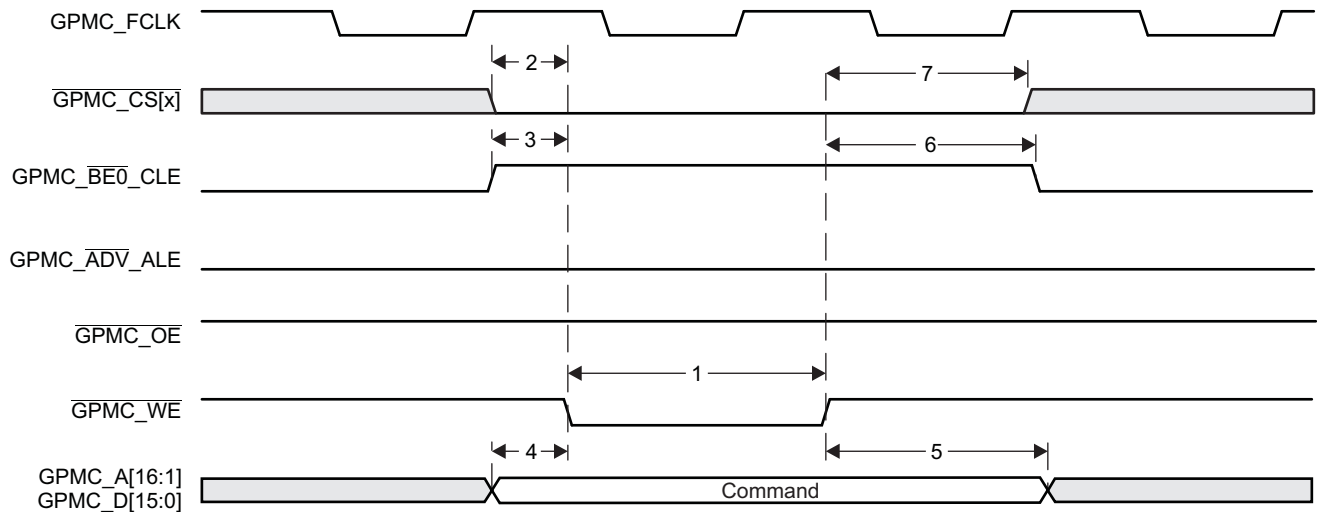
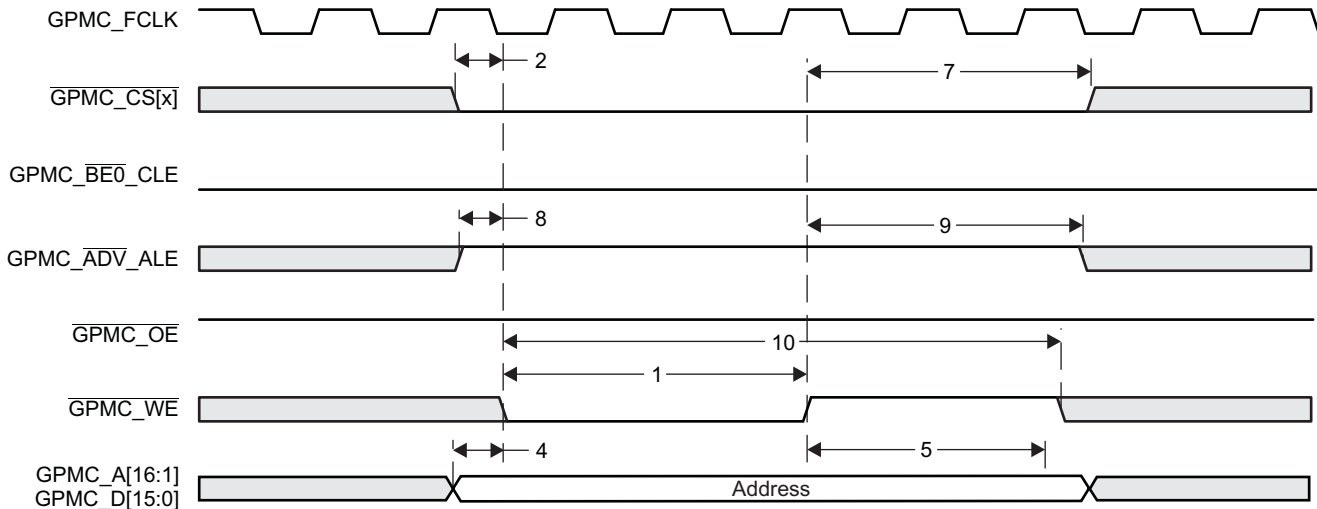
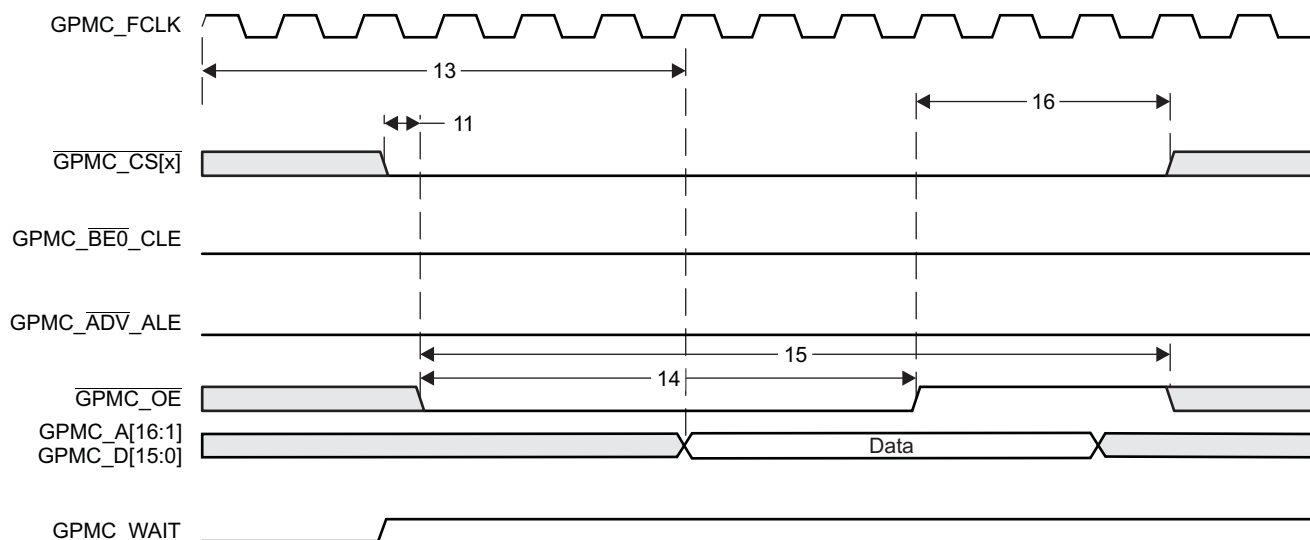
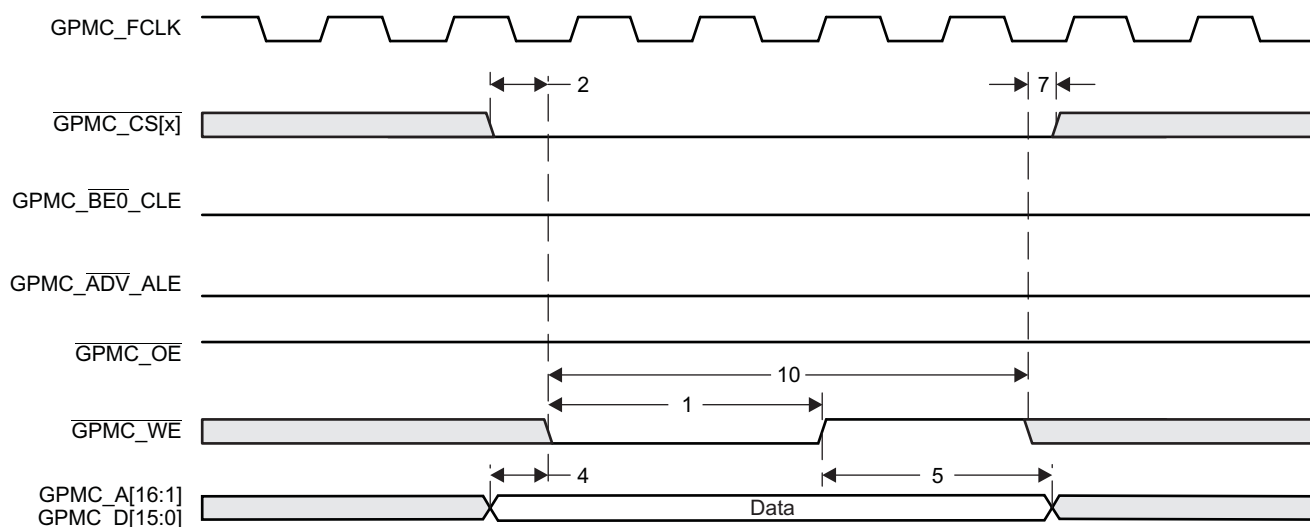

Figure 8-62. GPMC/NAND Flash - Command Latch Cycle Timing
Figure 8-63. GPMC/NAND Flash - Address Latch Cycle Timing
Figure 8-64. GPMC/NAND Flash - Data Read Cycle Timing
Figure 8-65. GPMC/NAND Flash - Data Write Cycle Timing
Table 8-60. Timing Requirements for GPMC/NAND Flash Interface(see Figure 8-64)
(1) $J = \text{AccessTime} * (\text{TimeParaGranularity} + 1)$ **Table 8-61. Switching Characteristics Over Recommended Operating Conditions for GPMC/NAND Flash Interface**(see Figure 8-62, Figure 8-63, Figure 8-64, Figure 8-65)
(see Figure 8-62, Figure 8-63, Figure 8-64, Figure 8-65)